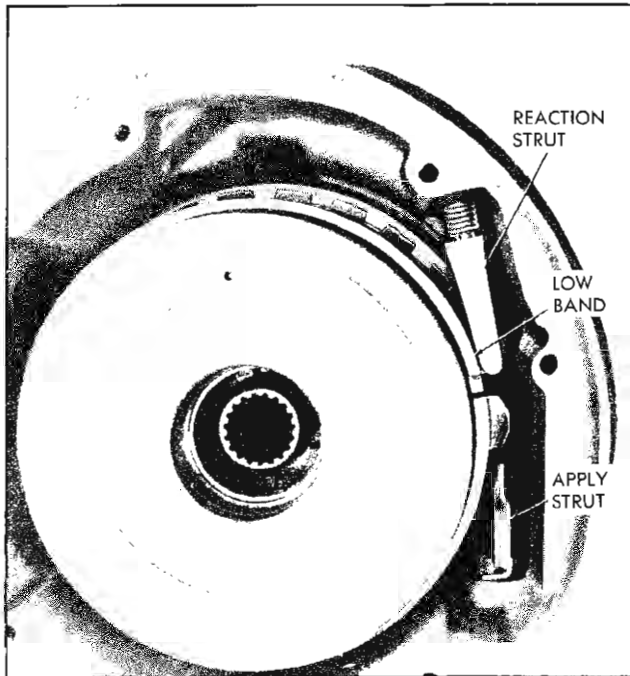

Fig. 7A-31 Location of Apply and Reaction Struts
13. Loosen low band adjusting screw and remove low band, apply strut and reaction strut (Fig. 7A-31).